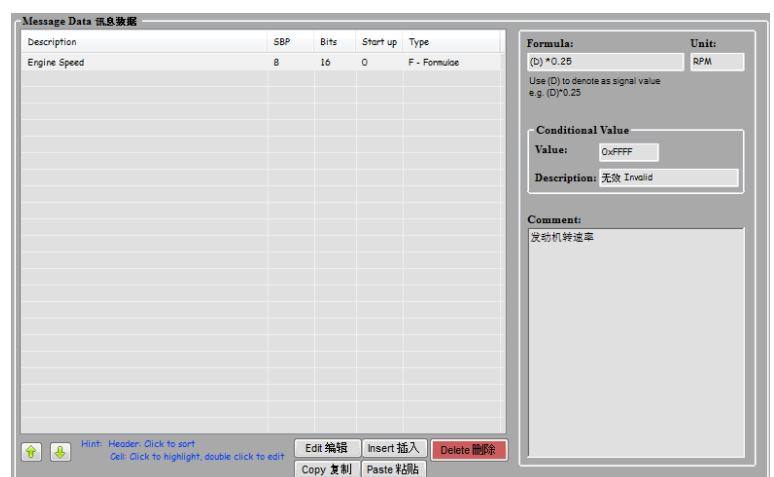

Figure 14: Operational parameter for Formula type
- ☐ Type : Select “F” for formulae and the available options for formula type will be shown- See Figure 14 for reference. For other available type, please refer to section 9.4 for more details.